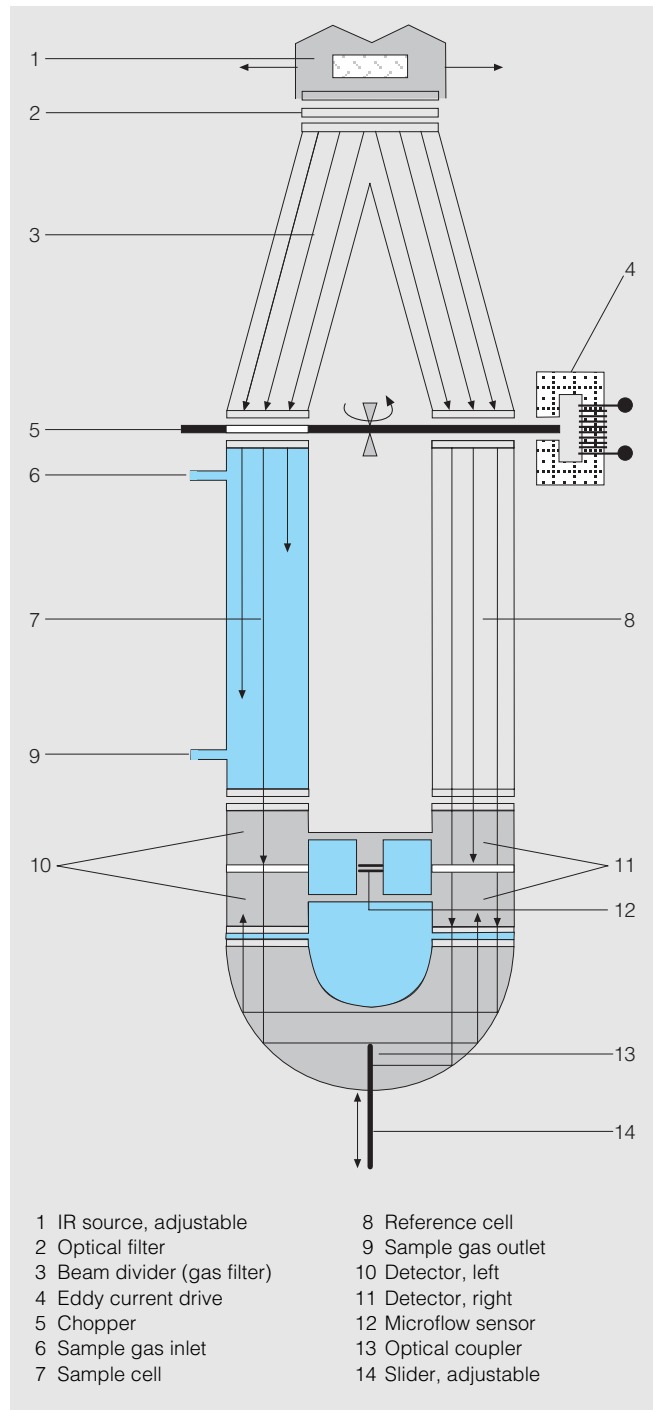

Fig. 2 ULTRAMAT 6, mode of operation
Fig. 2 shows the measuring principle. An IR source (1) which is heated to approx. 700 °C and which can be shifted to balance the system is divided by the beam divider (3) into two equal beams (sample and reference beams). The beam divider also acts as a filter cell.